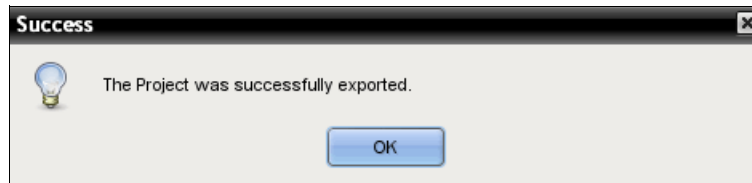

Figure 10-74 Project successfully exported
3. Wait until the success message displays, as shown in Figure 10-74.